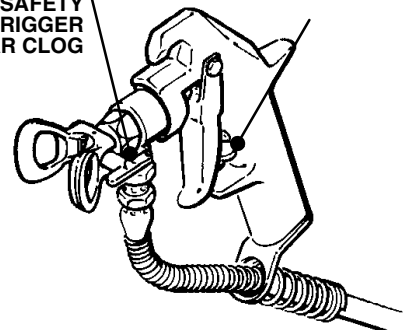

Fig 13-2
5. **Disengage the gun safety latch.** *See Fig 13-2.*
8. **Install the Spray Tip and Tip Guard.** Be sure the gun safety latch is engaged. *See Fig 13-2.* Install the spray tip. If you are using the RAC IV tip guard, refer to manual 307-848, supplied with the gun, for installation instructions.
2. If the spray tip does clog, release the gun trigger and engage the gun safety latch. Rotate the RAC IV handle 180°. See Fig 13-2.